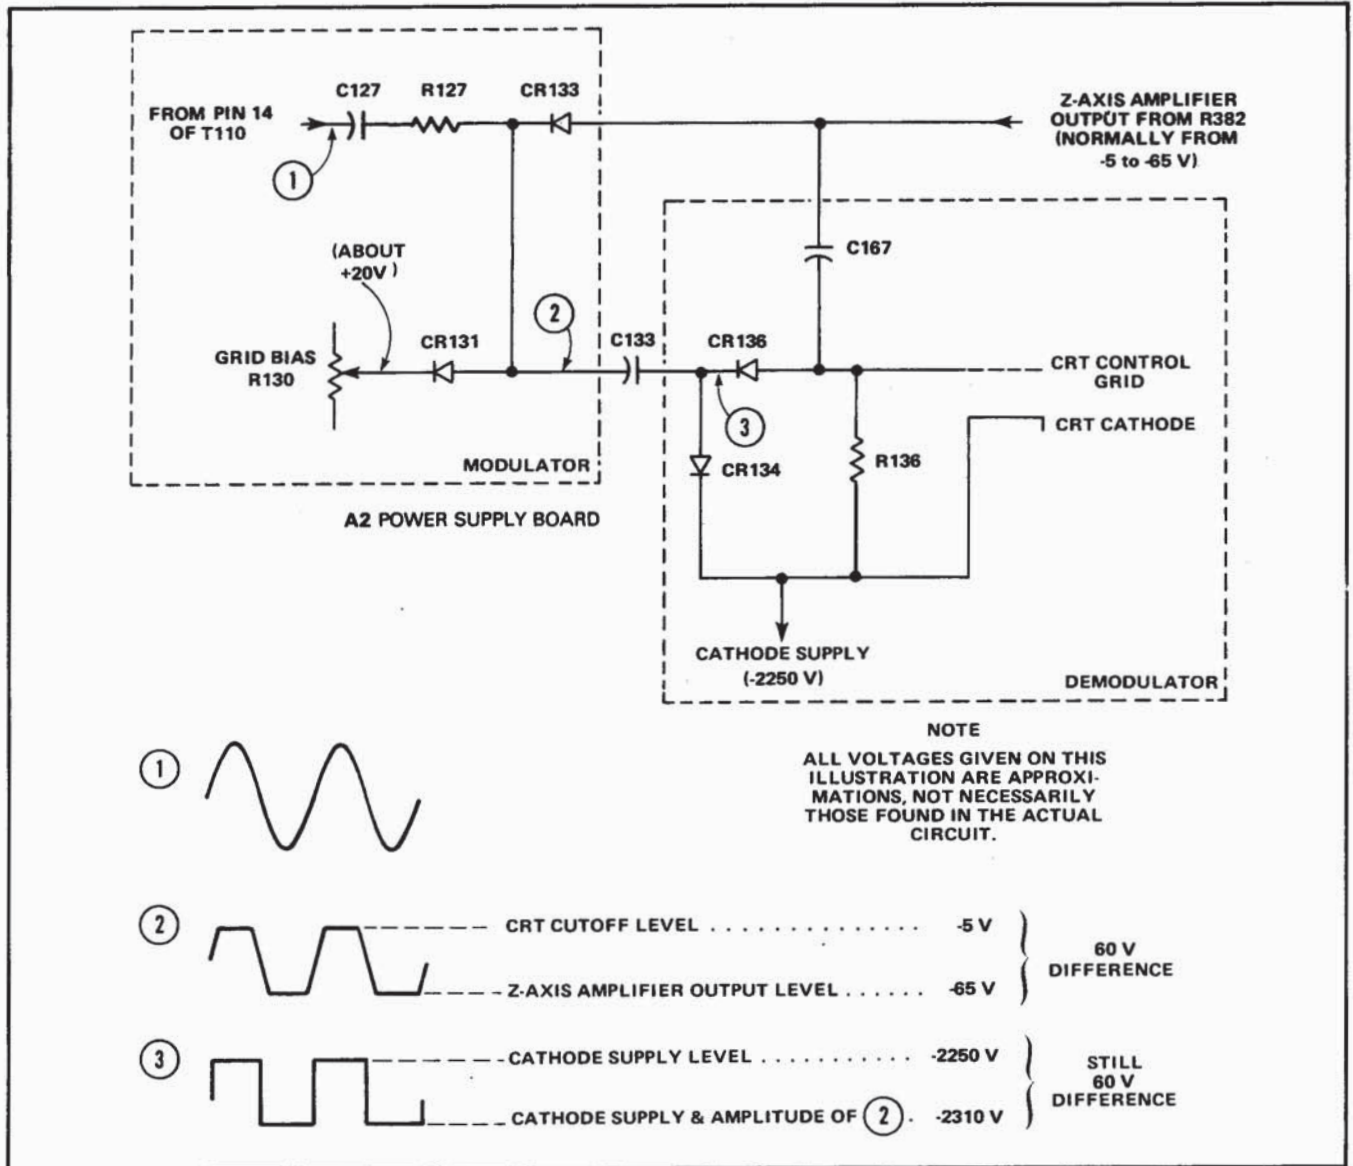

Figure 7-128. Control Grid DC Restorer Circuit
- c. Z Output Amplifier. The Z Output Amplifier is a current-driven operational amplifier consisting of active components A1Q367-A1Q369-A1Q379. Feedback for the amplifier is provided by A1R372-A1R371-A1C371. Components A1CR381-A1CR382-A1R382 provide voltage-surge protection in the event of a high-voltage malfunction. The Z-Axis output signal is applied to the CRT control grid through the Control Grid DC Restorer network (Figure 7-128) to control the CRT beam intensity.
A simplified diagram of the Control-Grid DC Restorer is shown in Figure 7-128. The voltages given on this diagram are idealized levels and will not necessarily be the same as those found in the actual instrument.
The first section can be considered a modulator at low-voltage potentials, and the remaining section as a demodulator at high-voltage potentials (see Figure 7-128).
level (approximately 65 volts), diode A2CR131 conducts, preventing any additional increase in the positive voltage across A2C133. When the secondary winding swings negative, diode A2CR131 turns off. Then A2CR133 conducts and clamps the negative excursion at A2C133 to the voltage level of the Z-Axis output level and the CRT Bias adjustment setting. (See waveform 2 in Figure 7-128. This square wave is coupled through A2C133 to the Demodulator.
2. Demodulator. The Demodulator rectifies the signal from the Modulator and references it to the CRT Cathode Supply level. The positive swing of waveform 3, Figure 7-128, is limited by A2CR134 to the level of the Cathode Supply; the negative excursion is coupled through A2CR136 to A2C167. Quietly, A2C167 will charge to about -2250 volts through A2R136. After repetitive cycles from A2C133, A2C167 will charge to the negative level of waveform 3. Capacitor A2C167 holds the voltage constant at the CRT control grid, and also provides a path for the ac portions of the Z-Axis Amplifier output signal to be coupled to the CRT control grid.
The remainder of the components not shown on the simplified diagram in Figure 7-128 provide circuit protection in the event of a high-voltage arc or other malfunction.